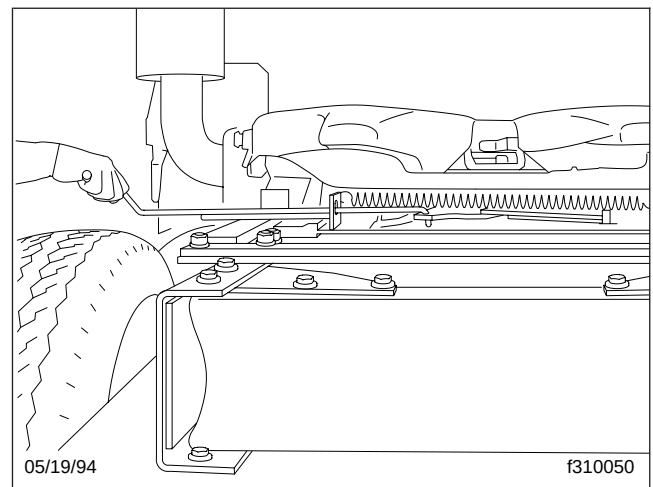

Fig. 10.19, Fontaine Sliding Fifth Wheel Manual Release
- 2.2 For manual release models, lift the slide release pull handle to disengage it from the guide plate. Then, pull out the handle (Fig. 10.19) until it is in the unlocked position and can be positioned against the guide plate to hold it out. The slide release pull handle will stay in the unlocked position until it is manually disengaged from the guide plate.